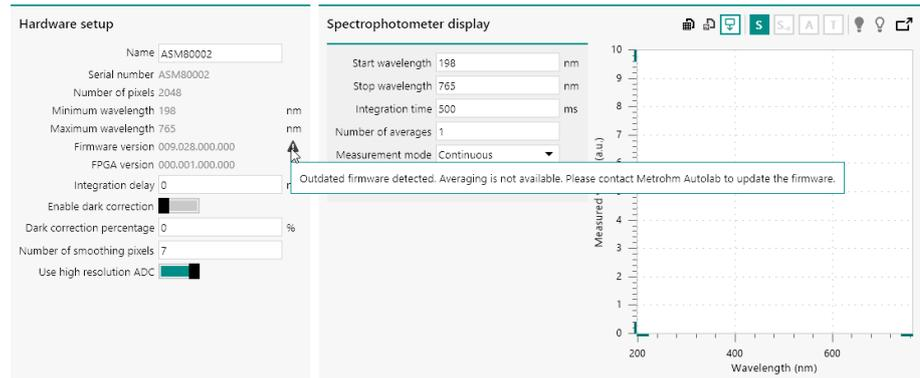

Figure 155 A warning is shown when an outdated firmware is detected
- **009.028.000.000:** this firmware version supports all options provided in NOVA except spectrum averaging. When this firmware is detected, a warning symbol is shown in the **Hardware setup** panel, with an indication that an outdated firmware is detected, as shown in *Figure 155*.